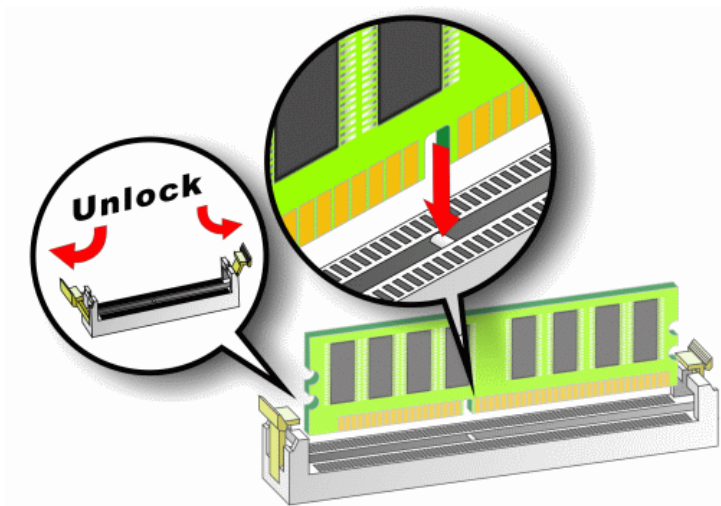

Figure 5-7: Installing a DIMM
To install a DIMM into a DIMM socket, please follow the steps below and refer to **Figure 5-7**.
- Step 1:** Open the DIMM socket handles. The DIMM socket has two handles that secure the DIMM into the socket. Before the DIMM can be inserted into the socket, the handles must be opened. See **Figure 5-7**.
- Step 2:** Align the DIMM with the socket. The DIMM must be oriented in such a way that the notch in the middle of the DIMM must be aligned with the plastic bridge in the socket. See **Figure 5-7**.
Step 3: Insert the DIMM. Once properly aligned, the DIMM can be inserted into the socket. As the DIMM is inserted, the white handles on the side of the socket will close automatically and secure the DIMM to the socket. See **Figure 5-7**.